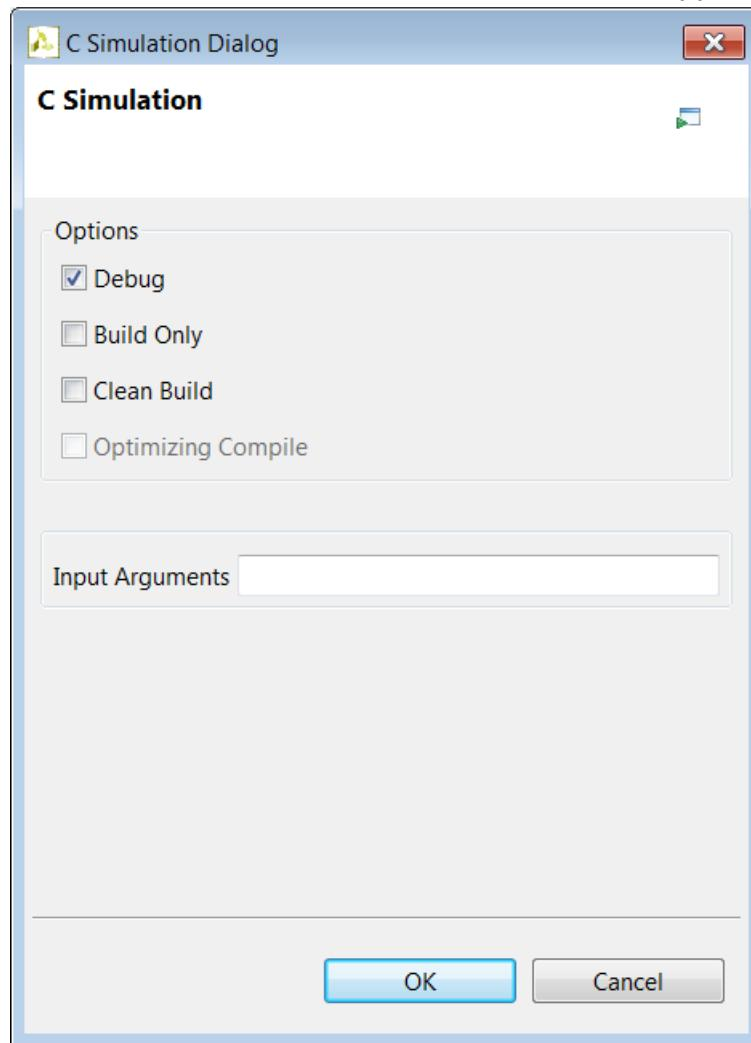

Figure 39 C Simulation Dialog Box
2. Select the **Debug** option as shown in Figure 39.